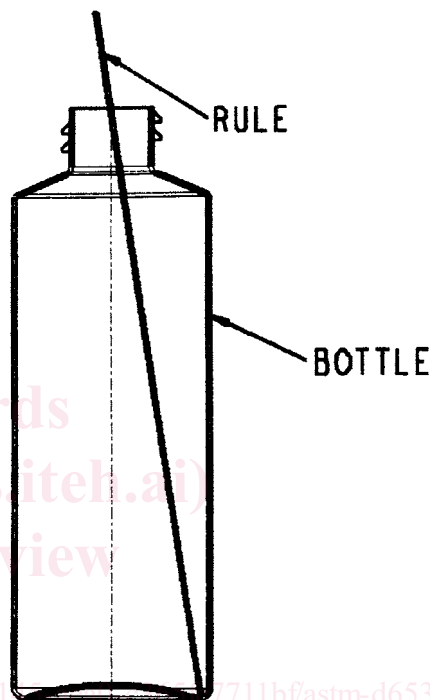

FIG. 1 To Bottom-Corner
4.1 Place the zero-index end of the ruler into the container as shown in Fig. 1.